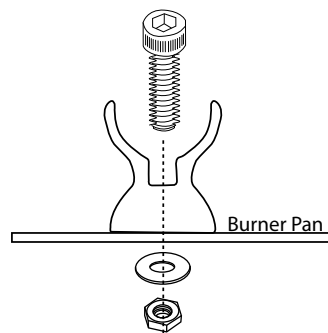

Fig. 9 Shows assembly of burner support to pan.
Step 5: Drill (3) 1/4" holes into the burner pan to attach the burner supports. See Fig. 9.
Step 6: Using the 5/32" Allen wrench (not supplied) screw, nut and washer for each burner support secure them to the burner pan. Fig. 9.